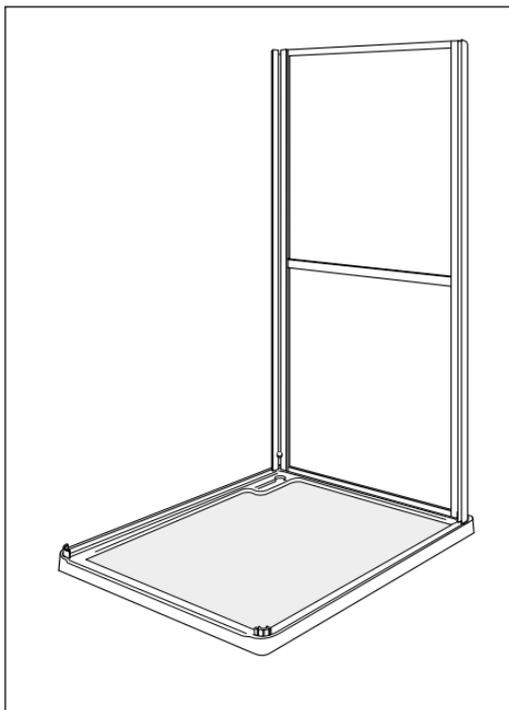

Fig 4.3
4. Fig 4.3 Slide in the second corner post. This is blank i.e without any door adjusting slots. Tighten the section with the allen key supplied.